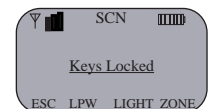

Figure 5
- **To Lock Keypad** - Turn the top bezel button located on the top of the radio to the "∅" position. If any keys on the front panel are pushing while the keypad is locked, the LCD will display the following "Keys Locked" message. (See Figure 5)